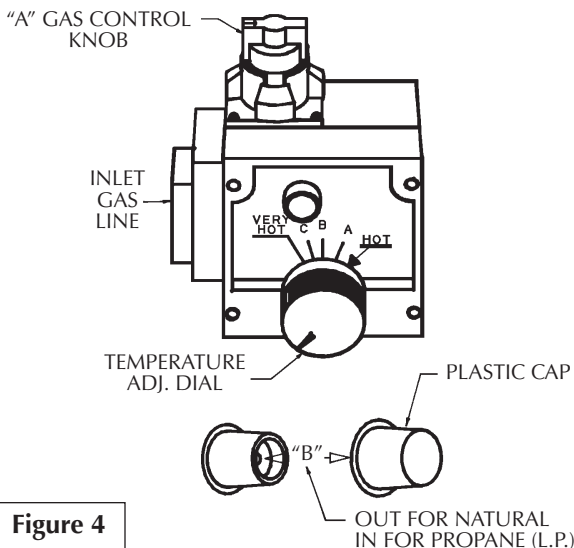

Figure 4
- Step 1. Turn gas control knob "A" to "PILOT". Depress and turn "OFF". (See Figure 4, page 14).
- Step 8. Place screwdriver in slot "B". (See Figure 4, page 14). Depress and turn counter-clockwise (↺) to stop. Control screw must be in "IN" position for propane (L.P.) gas and in "OUT" position for natural gas. STOP! Read label "For Your Safety" located on your water heater.
- Step 11. Wait five (5) minutes to clear out any gas. If you then smell gas, STOP! Follow "B" in the safety information on "For Your Safety" label. If you don't smell gas, go to the next step.
- Step 16. Make sure temperature adjustment dial is turned clockwise (↻) in its lowest position (See Figure 4, page 14).
To convert from Propane (L.P.) gas to Natural gas, follow the "Fuel" Conversion Instructions From Natural Gas to Propane (L.P.) Gas" section except in Step 5, use orifice "E", marked "NAT.". In Step 6 use pilot orifice "G", brass color and in Step 8 turn control screw "B" in Figure 4 clockwise (↻) to stop. Screw must be in "OUT" position for Natural gas.